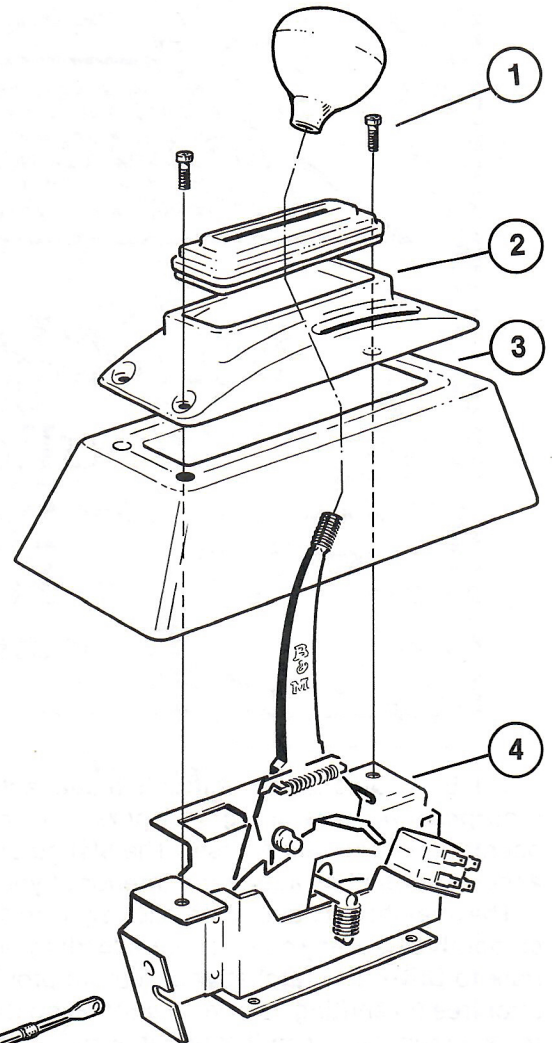

FIGURE 1
Step 2. Remove two cover plate screws (1), remove cover plate & boot (2), and tower (3) from shifter mechanism (4) (See Fig. 1).